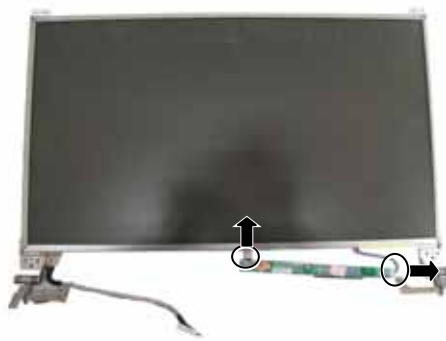

Figure 2-18 Remove the inverter board
5. Disconnect two cables, then remove the inverter board. (Figure 2-18)